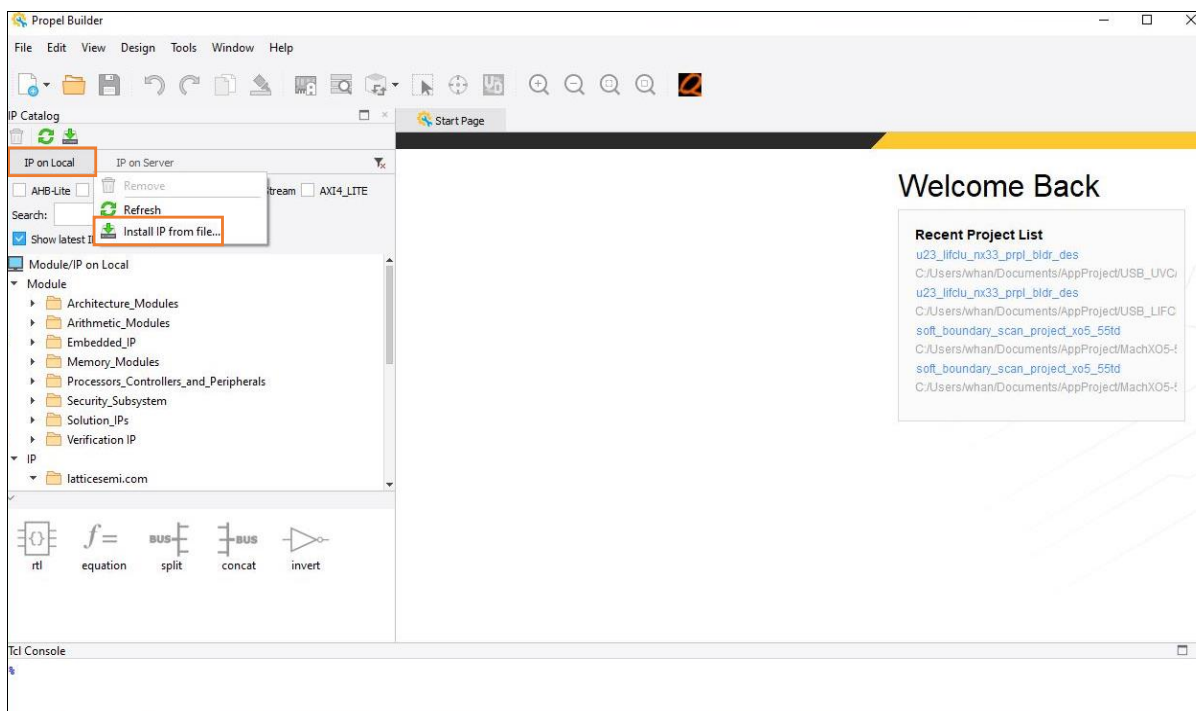

Figure 7.6. Install IP from File
1. Right click **IP on Local** and select **Install IP from file...**, as shown in Figure 7.6.